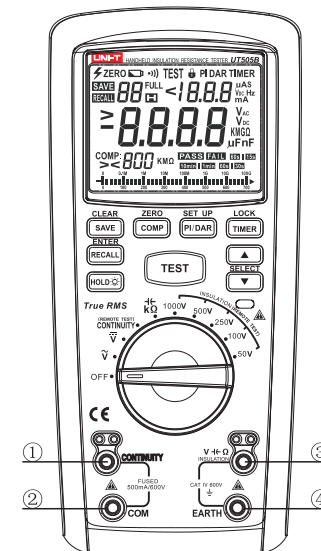

Figure 1
V. External Structure (Figure 1)